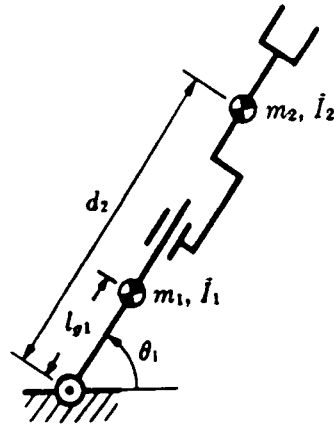

Fig. 1 A two link manipulator
1. (a) Derive the equations of motion for the two link manipulator in fig. 1, using the Lagrangian Formulation. Assume that the gravity acts vertically downward. (Note that \tilde{I}_i is the moment of inertia about the center of mass of link i).